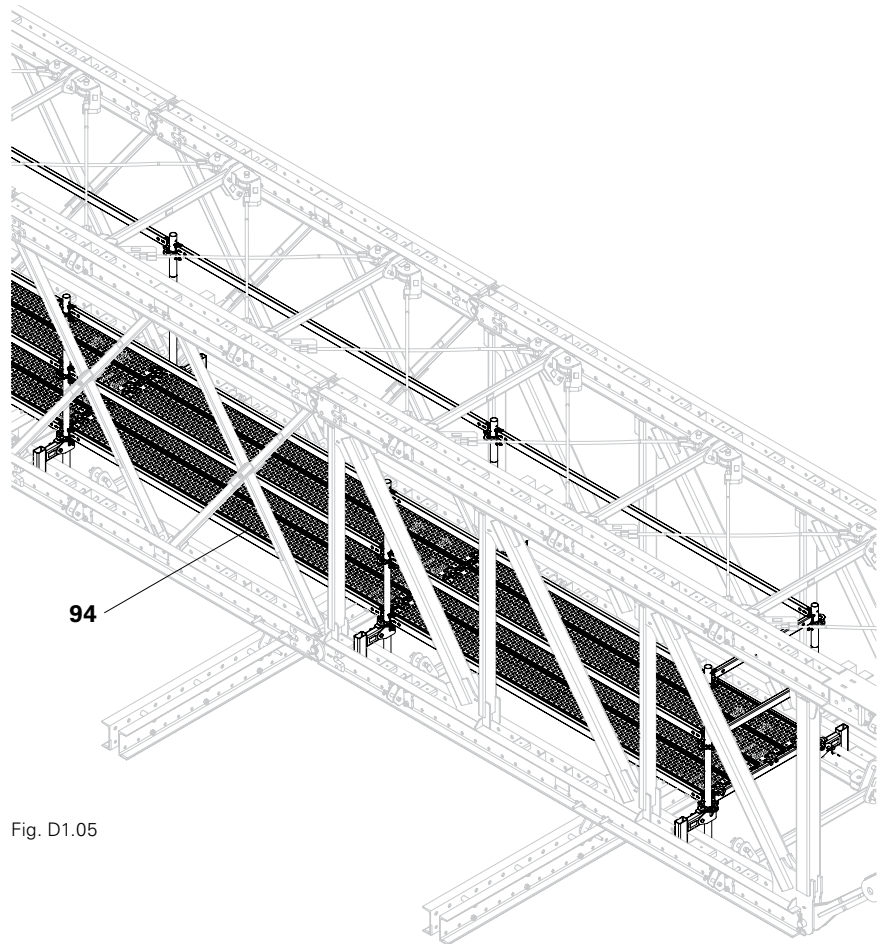

Fig. D1.05
3. Hook the ledger (92) into the rosettes on both sides. The ledger (92) is positioned vertically to the truss package.
4. Place four Steel Decks (94) in the field.
5. Hook additional ledgers (92) and (93) into the rosettes of the Top Standards as guardrails.
- (Fig. D1.05)